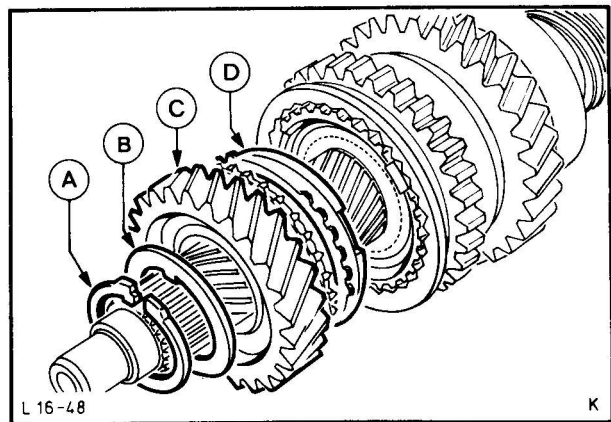

Fig. 32. Remove circlip, pull off 2nd gear
19. After removing circlip and thrust washer, detach 2nd gear from mainshaft, Fig. 32.